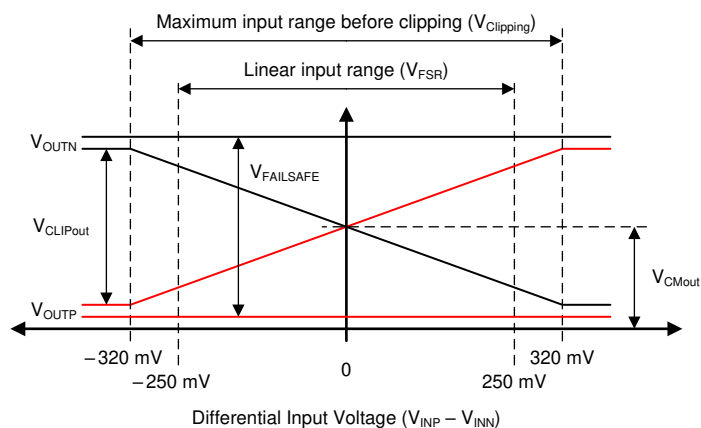

图 7-2. Output Behavior of the AMC3301-Q1
The AMC3301-Q1 offers a differential analog output comprised of the OOUTP and OOUTN pins. For differential input voltages ($V_{INP} - V_{INN}$) in the range from -250 mV to $+250$ mV, the device provides a linear response with a nominal gain of 8.2. For example, for a differential input voltage of 250 mV, the differential output voltage ($V_{OOUTP} - V_{OOUTN}$) is 2.05 V. At zero input (INP shorted to INN), both pins output the same common-mode output voltage V_{CMOut} , as specified in the Electrical Characteristics table. For absolute differential input voltages greater than 250 mV but less than 320 mV, the differential output voltage continues to increase in magnitude but with reduced linearity performance. The outputs saturate at a differential output voltage of $V_{CLIPOut}$ as shown in Figure 7-2 if the differential input voltage exceeds the $V_{Clipping}$ value.
The AMC3301-Q1 provides a fail-safe output that simplifies diagnostics on system level. Figure 7-2 shows the fail-safe mode, in which the AMC3301-Q1 outputs a negative differential output voltage that does not occur under normal operating conditions. The fail-safe output is active in two cases:
- The low-side does not receive data from the high-side (for example, because of a loss of power on the high side). In this case, the amplifier outputs are driven to the V_{FAILSAFE} value that is shown in Figure 7-2.
- The high-side DC/DC output voltage (DCDC_OUT) or the high-side LDO output voltage (HLDO_OUT) drop below their respective undervoltage detection thresholds (brown-out). In this case, the low-side may still receive data from the high-side but the data may not be valid. The amplifier outputs are driven to the V_{FAILSAFE} value that is shown in Figure 7-2.